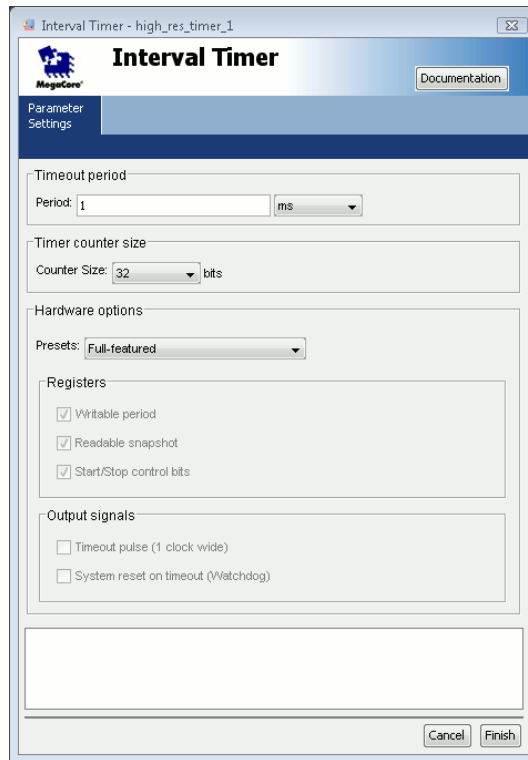

Figure 1.4: When creating `high_res_timer_1`, use a 1 ms periods.
12. Add another Interval Timer named `high_res_timer_1`. Leave the proposed options unchanged (see Figure 1.4). This timer is required by the Altera HAL for high resolution time measurement.